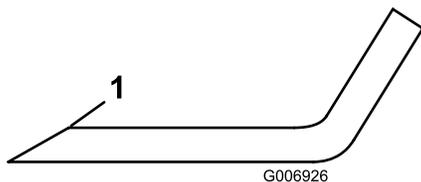

Figure 59
3. Inspect the cutting edges of all blades. Sharpen the cutting edges if they are dull or nicked. Sharpen only the top of the cutting edge and maintain the original cutting angle to make sure of sharpness (Figure 59). The blade will remain balanced if the same amount of metal is removed from both cutting edges.